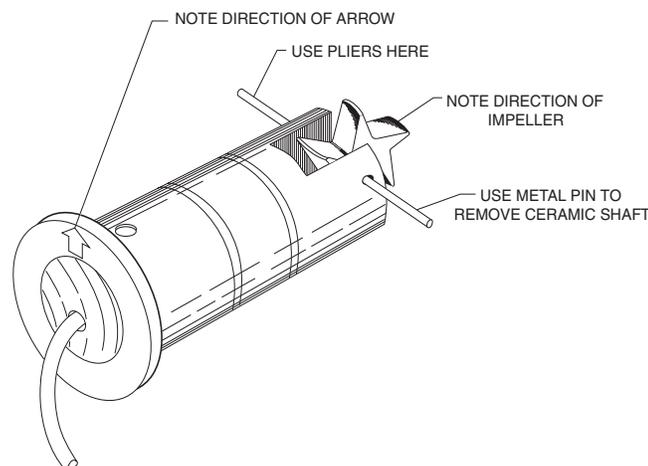

Figure 2: Impeller Assembly and Shaft
6. See *Figure 2* below. To reinstall, position the impeller in the cavity, oriented so that the impeller blades point in the flow direction (as described in the **NOTE** above). The flow direction arrow on the top of the sensor housing should point downstream with the impeller blades pointing upstream.